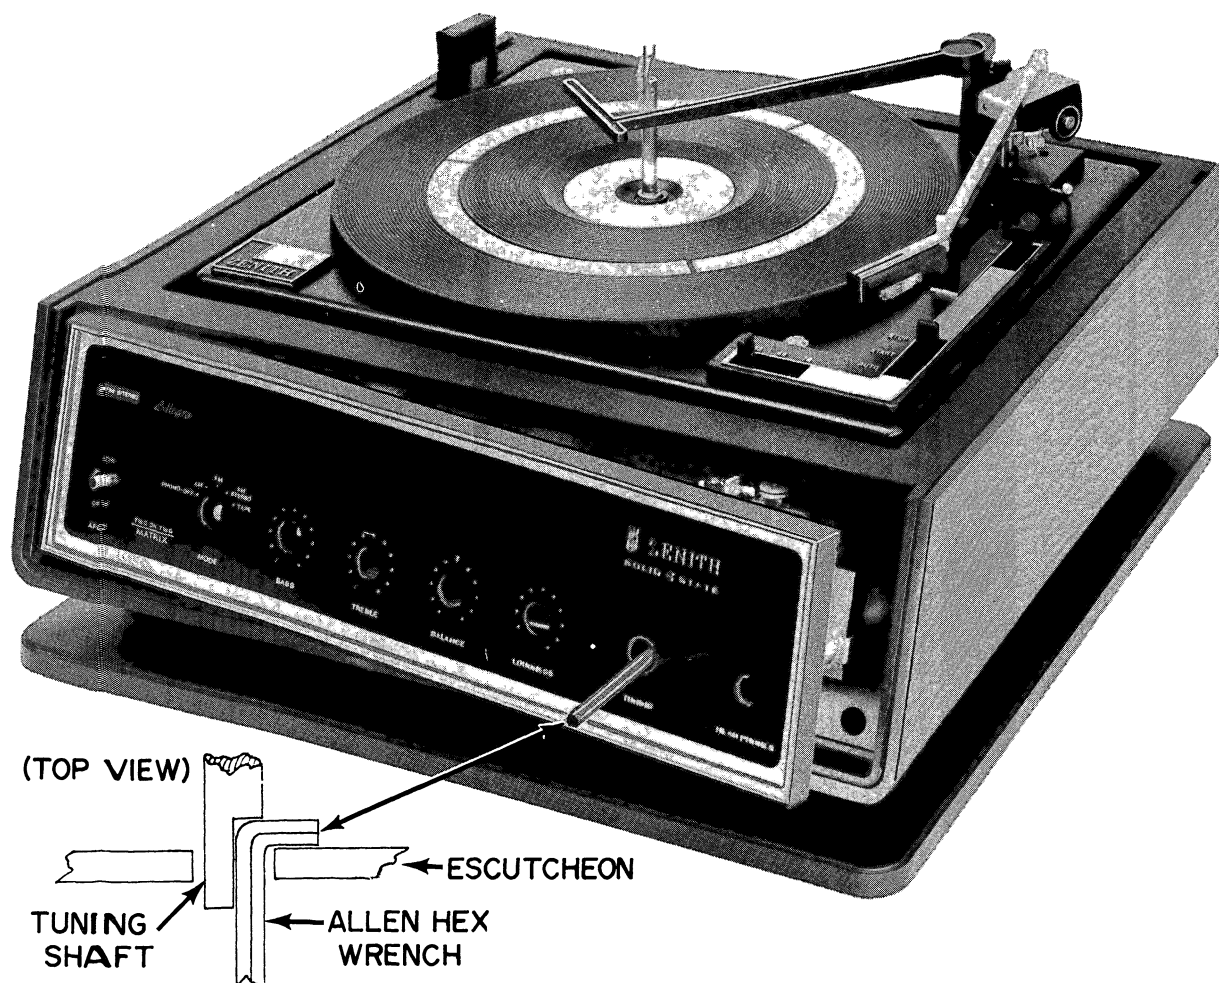

FIGURE 29 -- ESCUTCHEON REMOVAL -- GROUP "B"
Figure 29 illustrates the technique used:
3. Referring to the top view in Figure 29, insert the short end of a 1/8" (size may vary) "L" shaped Allen hex wrench between the shaft and the escutcheon.